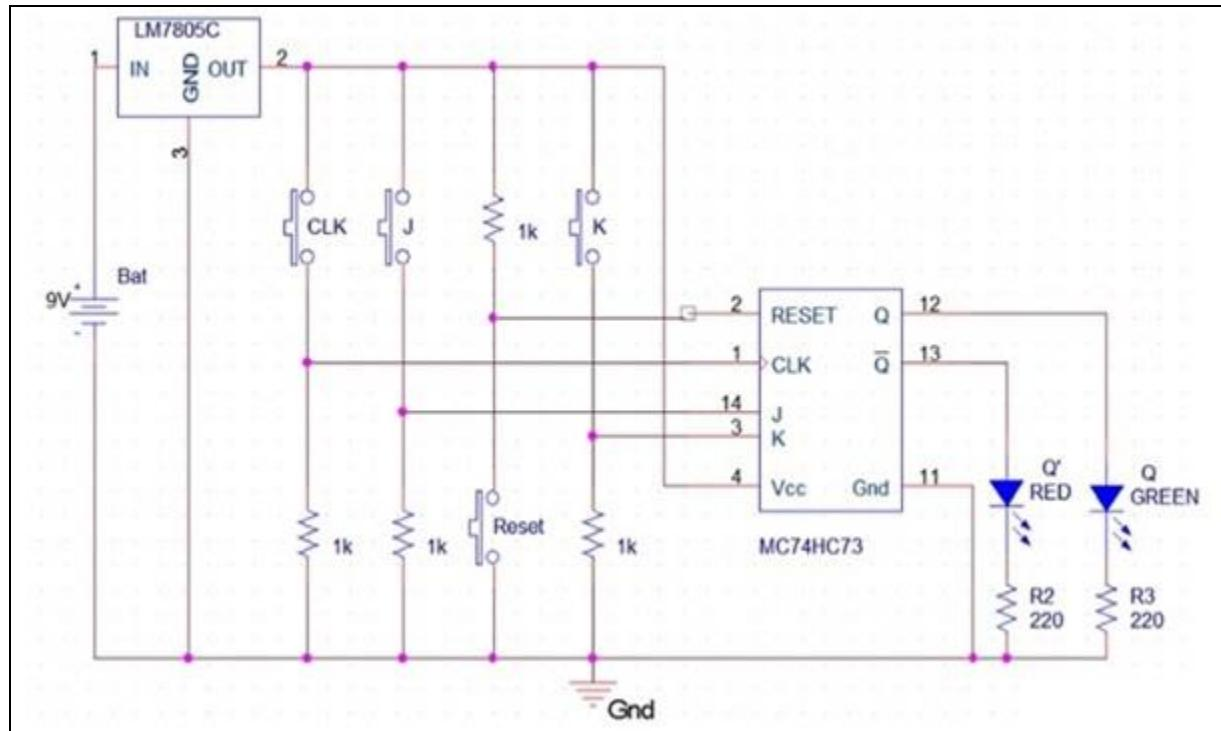

Figure 3: Circuit diagram of JK Flip Flop
The circuit diagram for JK flip flop with MC74HC73A IC is shown in Figure 3. IC MC74HC73A is used for demonstrating JK flip-flop circuit, which has a Dual JK flip-flop with RESET inside.
1. Implement the circuit of a JK flip-flop by using **MC74HC73A** according to the given schematic diagram shown in Figure 3.